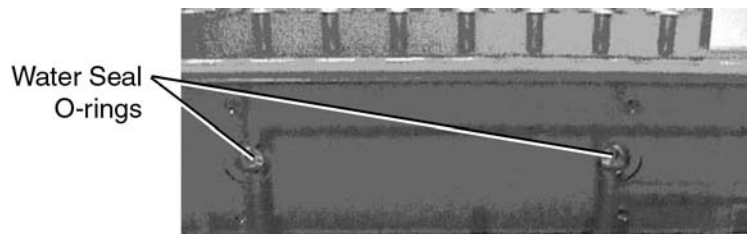

Figure 5-8: Pump Chamber Water Seal O-rings for Solo I, II, III
- 9) Slide the o-rings over the flashlamp lead and into place using tweezers. See Figure 5-8. Reinstall the pump chamber end caps and carefully tighten the screws to hold the lamp in place.
- 10) Carefully check the two o-rings on the resonator side plate, Figures 5-8 and 5-9. The o-rings seal the pump chamber against water leaks. Ensure that the o-rings are in place, before replacing the pump chamber in the resonator.